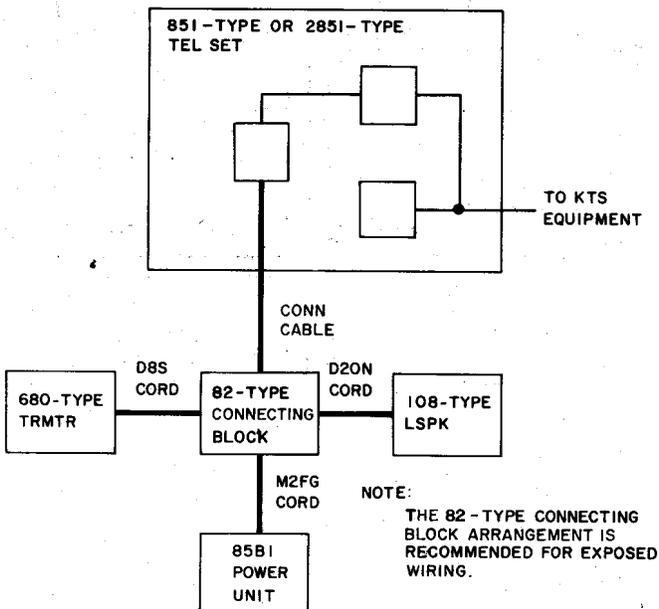

Fig. 27—Block Diagram of 4A Speakerphone Located at Station Using 82-Type Connecting Block
3.13 4A Speakerphone: If 4A speakerphone is provided, the 223D adapter is recommended, however, the 82-type connecting block also may be used to interconnect the 4A speakerphone components [680-type transmitter, 108-type loudspeaker set, and the 85B1 power unit, (Fig. 27 and 28)]